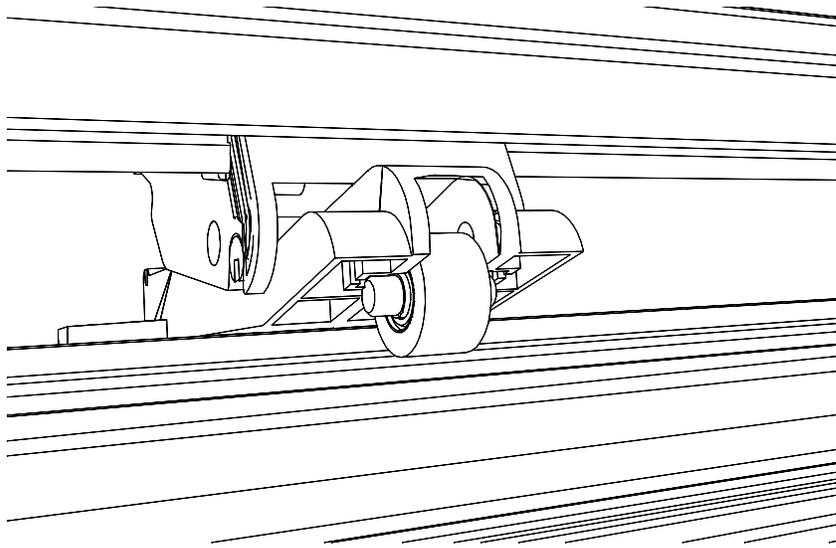

Fig. 12 - Removing the wheel from the assembly
- 2) Push down on the screwdriver handle to pop the wheel out from the pinch wheel assembly. You will have to push down on the back "Wings" of the pinch wheel assembly to raise the wheel housing high enough to pop the wheel out. See Fig 12.